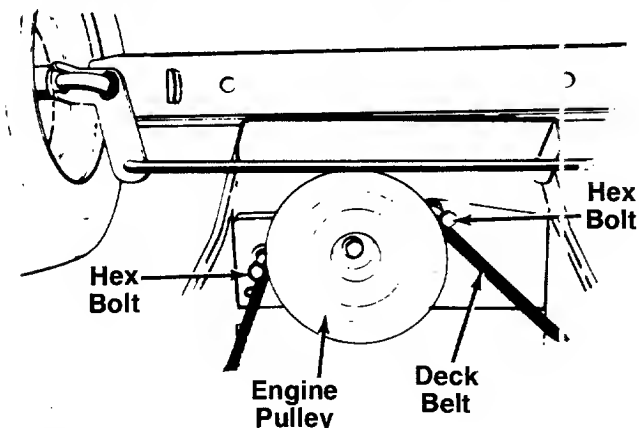

FIGURE 20.
**NOTE:** Figures 20, 23 and 24 are shown with the unit tipped up for clarity. It is not necessary to tip the unit to remove the belts.
2. Remove the two hex bolts (belt keepers) from the engine pulley belt guard. See figure 20.
**NOTE:** Make certain hex bolts are reassembled as shown in figure 20.